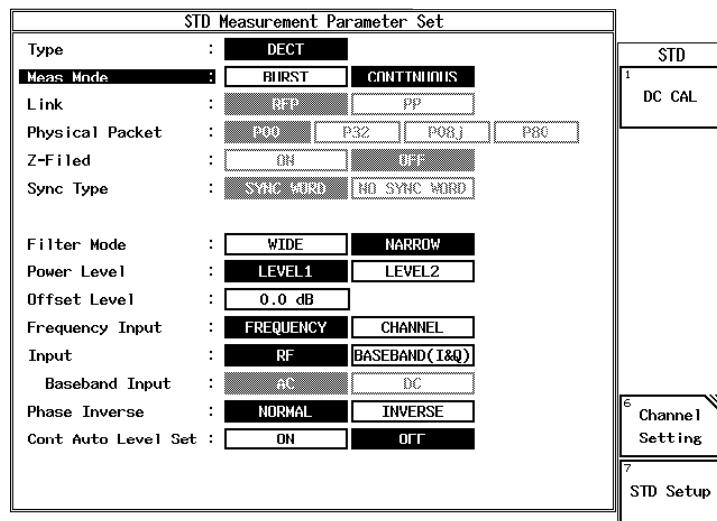

Figure 6-7 Setting of Measurement parameter for Frequency Deviation Accuracy Measurement (DECT)
3. On the R3267 Series, set the measurement parameter as shown in Figure 6-7.